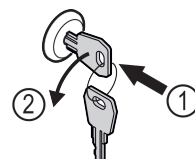

Fig. 207
- Insert the key. Fig. 207 (1)
- Turn the key anticlockwise by 90°. Fig. 207 (2)